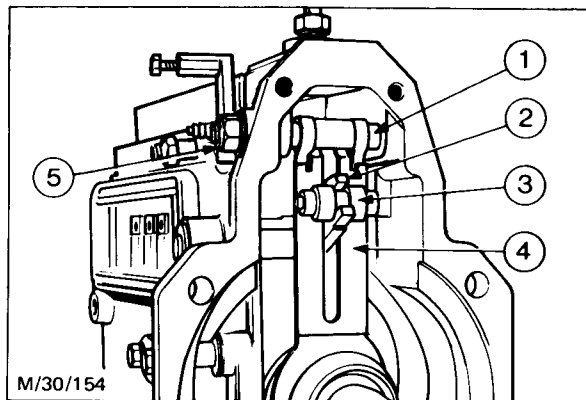

Fig. 78 - Governor Spring Assembly (Naturally Aspirated)
13. Place the small dumb-bell shaped roller in the governor inner control lever fork with the lever in the raised position (Fig. 78).